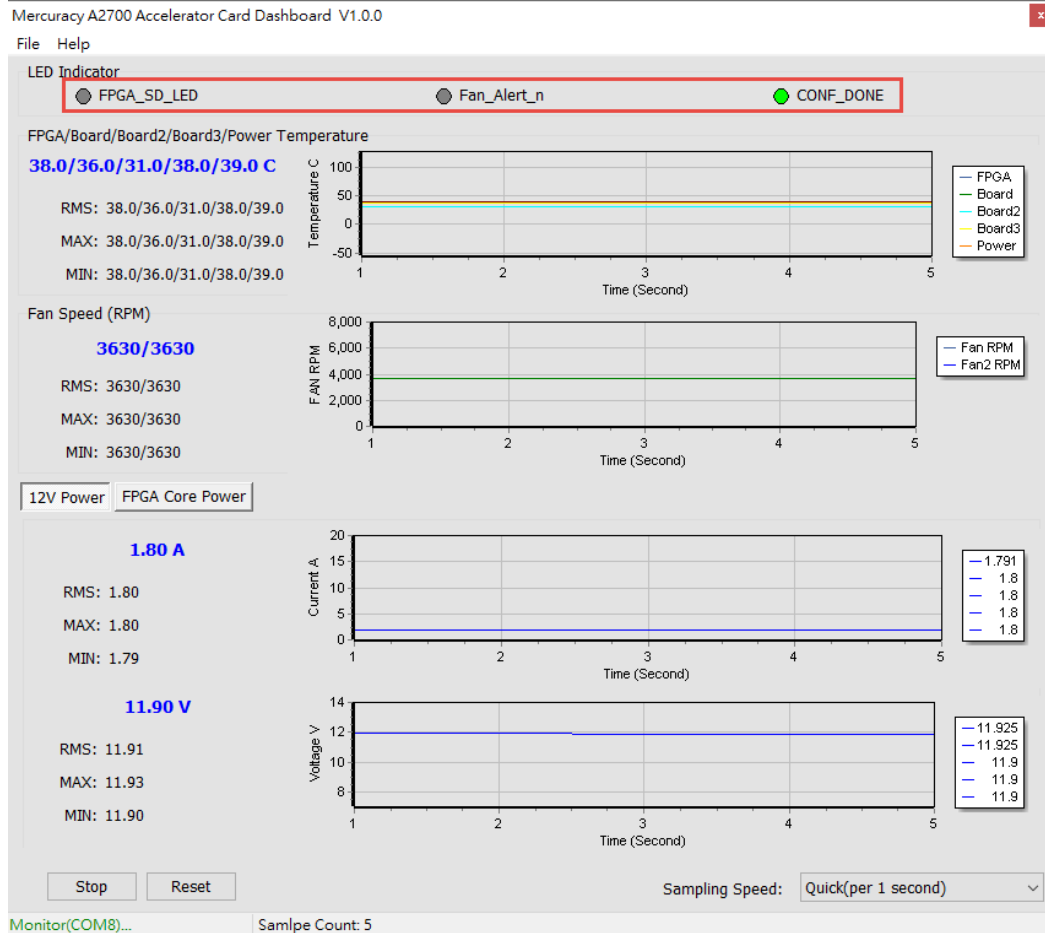

Figure 4-8 FPGA Status section
- **FPGA Status:** As shown in Figure 4-8, it will show the status LED number on the Mercury A2700 Accelerator Card. The definitions of these indicator LEDs are as follows: